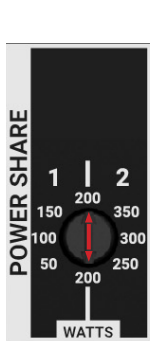

Fig. 1
- **Fig 1** - CLA402 Power Share selections arrow pointer is set to 200W for CH 1 / CH 2